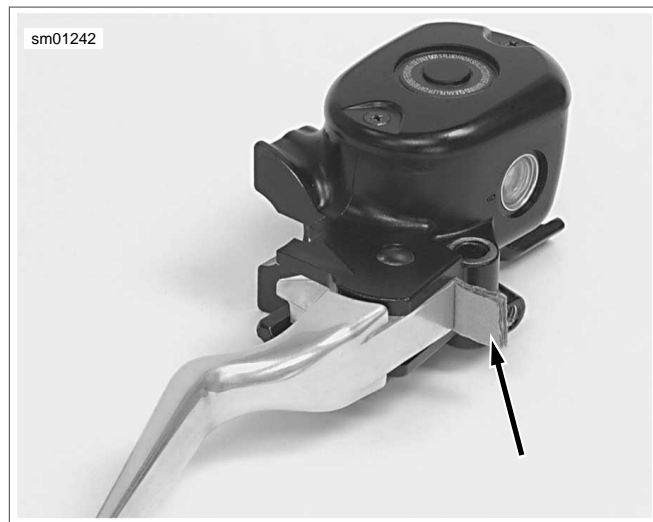

Figure 2-73. Install 5/32 in. (4 mm) Cardboard Insert Before Installing Master Cylinder Assembly
8. Install **new** retaining ring (17) in pivot pin groove. Verify that retaining ring is fully seated in groove.
9. Remove master cylinder assembly from vise. Install cover (2), diaphragm plate (3) and diaphragm (4) on master cylinder reservoir. Install two screws (1) to fasten cover to reservoir, but do not tighten at this time.
10. See Figure 2-73. Squeeze front brake lever and place a 5/32 in. (4 mm) thick cardboard insert between brake lever and lever bracket. Release brake lever.